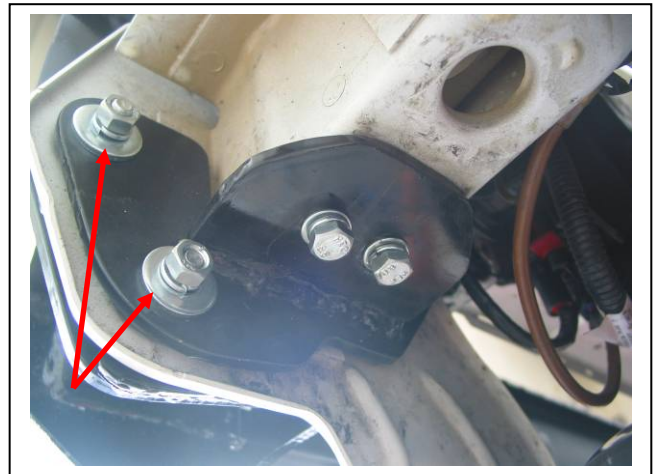

Figure 6: Nuts to rear of chassis mount.
11. Fit M8 nuts, spring washers and flat washers (supplied) to rear of chassis mount bolts. Ensure bolt is through chassis support bracket. Hold front of bolt to tighten nut, spring washer and flat washer to rear. **Tighten all bolts.** See figure 6.